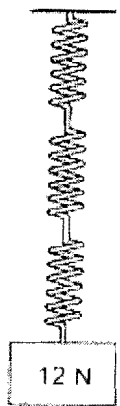

Fig. 1.2
- (a) Calculate the total extensions of the arrangements in Fig. 1.2 and 1.3 for the loads shown.